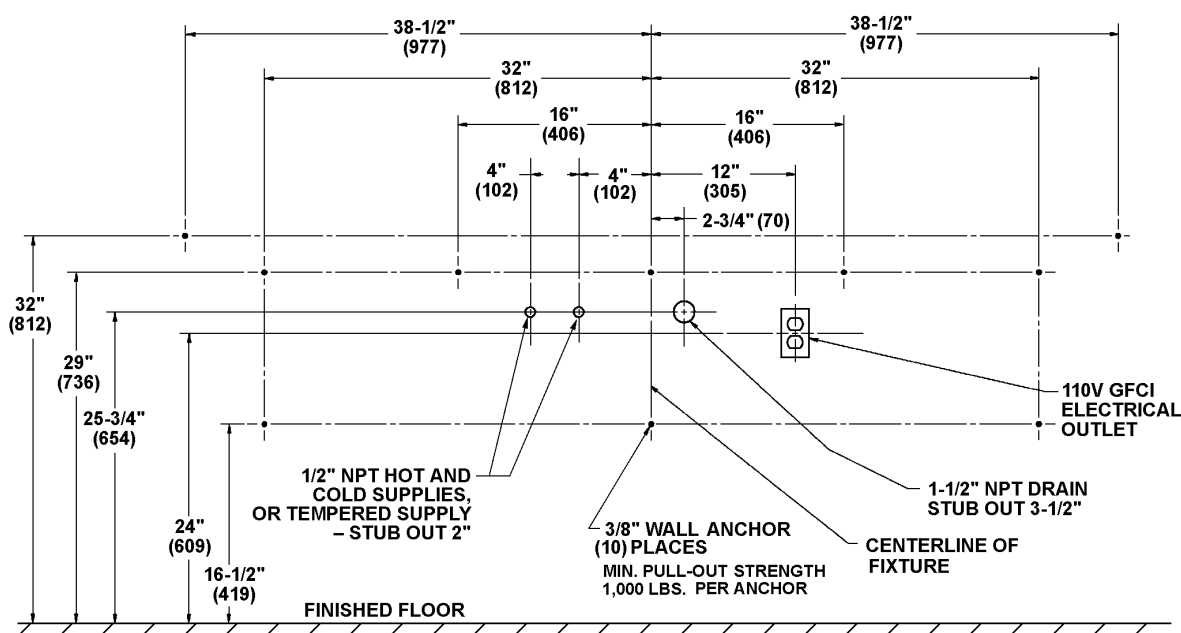
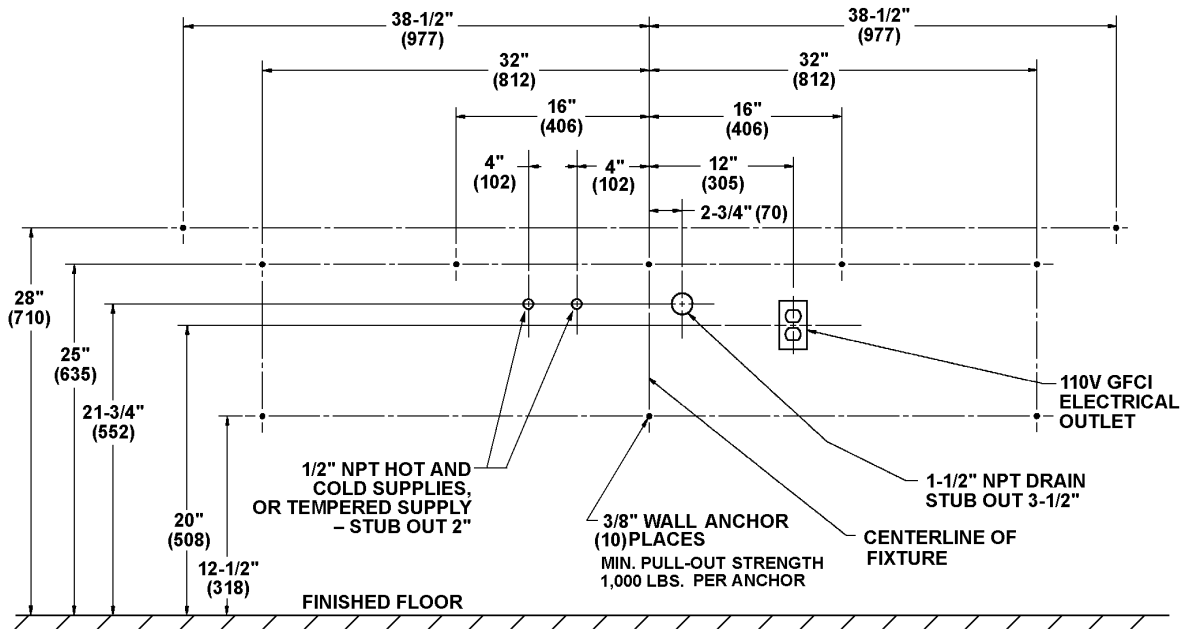

Figure 1
Figure 1a
Note: See Figure 1 below (for Standard Height) and Figure 1a on page 5 (for Juvenile Height) when roughing in the Express®.
- ⚠ IMPORTANT: Dimensions shown in Figure 1 are for an SS-3/TT/97 Express® only.**
4. Install (10) 3/8" wall anchors with a minimum pull-out rating of 1,000 lbs. (supplied by installer) at the locations shown in Figure 1 below (or Figure 1a on page 5).